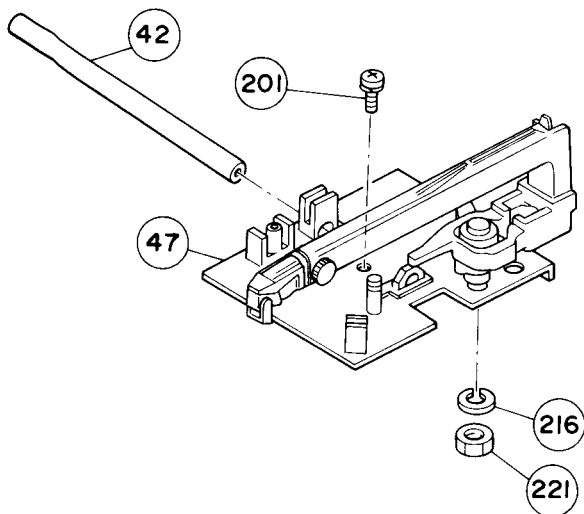

Figure 9
- (4) After removing one screw " 201 " as shown in Figure 9, remove the Plate Assembly " 47 " by lifting the left end of the Pipe " 42 ".
- (3) Remove the Hexagon Nut " 221 " and Spring Washer " 216 " to remove the tonearm assembly as shown in Figure 9.